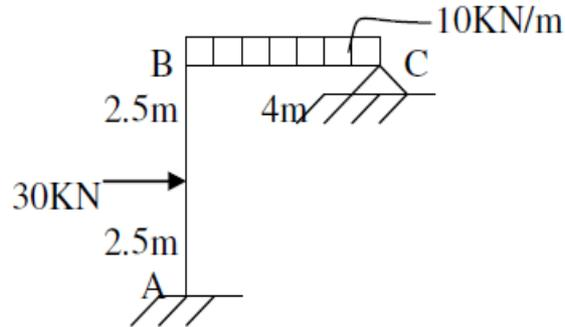

Fig.2
- b) Using the method of virtual work, determine the horizontal displacement of a point C of the frame shown in Fig.2 Take $E = 2 \times 10^5 \text{ N/mm}^2$, $I = 4 \times 10^6 \text{ mm}^4$.